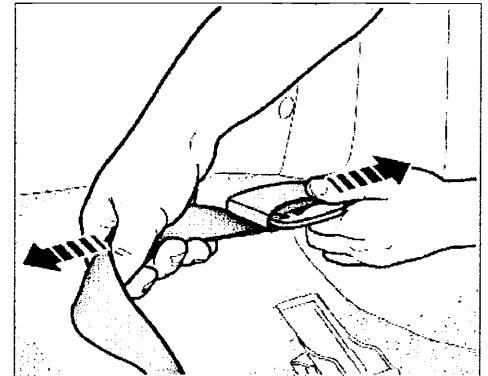

Figure 14
- 12.9** Pull the seat belt tightly with the belt strap holder in this position (Figure 14, Arrows).